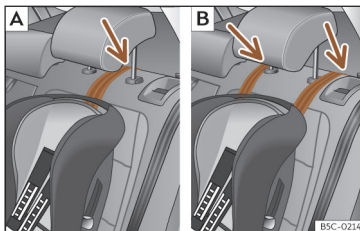
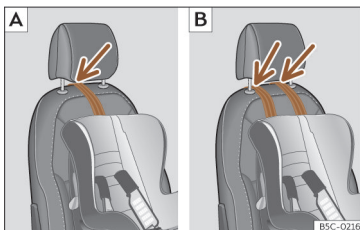

Fig. 44 Rear seats: adjustment and assembly according to the Top Tether belt.
Fig. 45 Passenger seat: adjustment and assembly according to the Top Tether belt.
- Position the belt under the headrest (according to the instructions of the seat itself, lift or remove the headrest if necessary) >>> Fig. 44 , >>> Fig. 45.